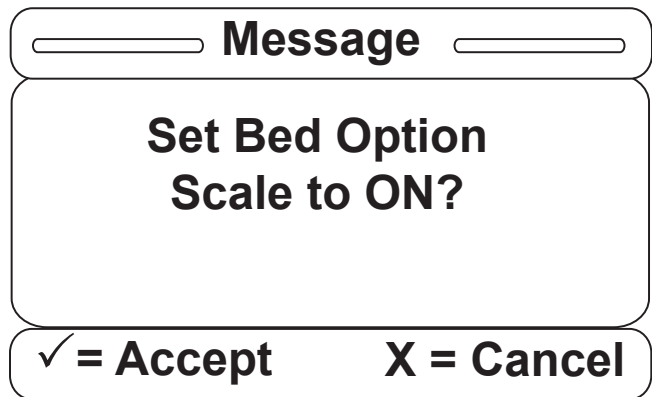

Figure S-10
10. After Scale has been selected, a confirmation screen will be displayed as shown in Figure S-10. Confirm you want to Set Bed Option Scale to On by pressing “Enter” on the footboard panel. If needed, press “Exit” to cancel the operation.